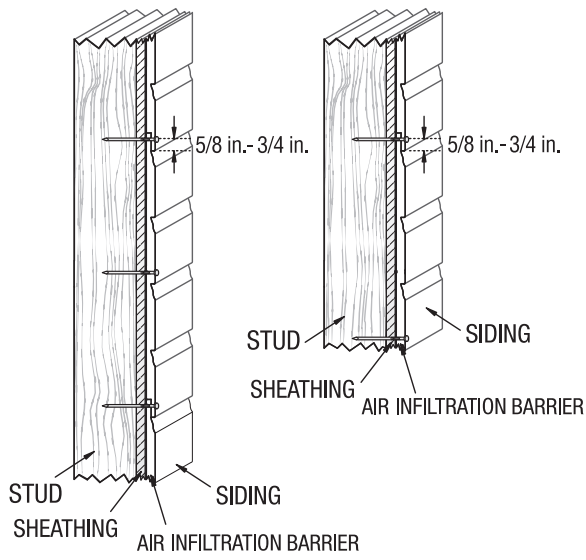

Figure 4
- Place nails 5/8 in. to 3/4 in. up from the drip edge and in the center of the lap. Make sure that drip edge nails penetrate both courses of siding and into studs. Do not nail in the groove (see Fig. 4).